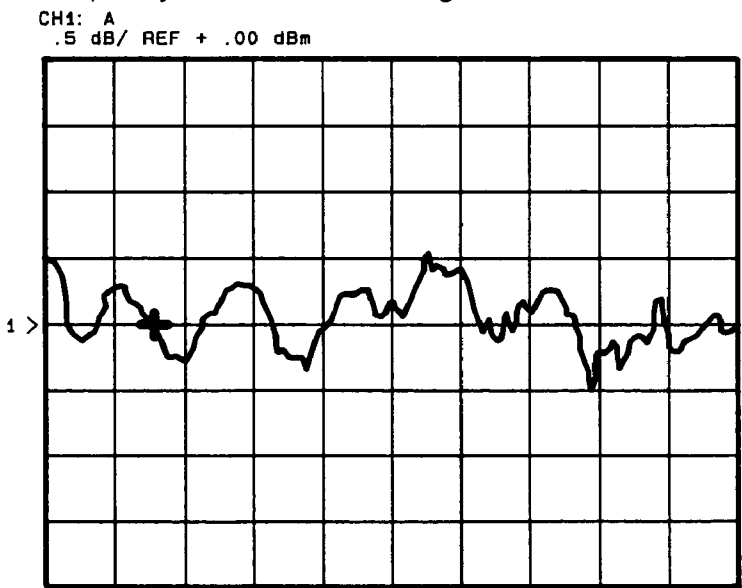

Figure 5-22. Power Cal Adjustment
68. Press **CURSOR**. Rotate the rotary knob to position the cursor on a portion of the flatness trace that intersects with the center graticule. Ensure that the slope chosen is as smooth and shallow as possible. Note the frequency of the cursor. See Figure 5-22.